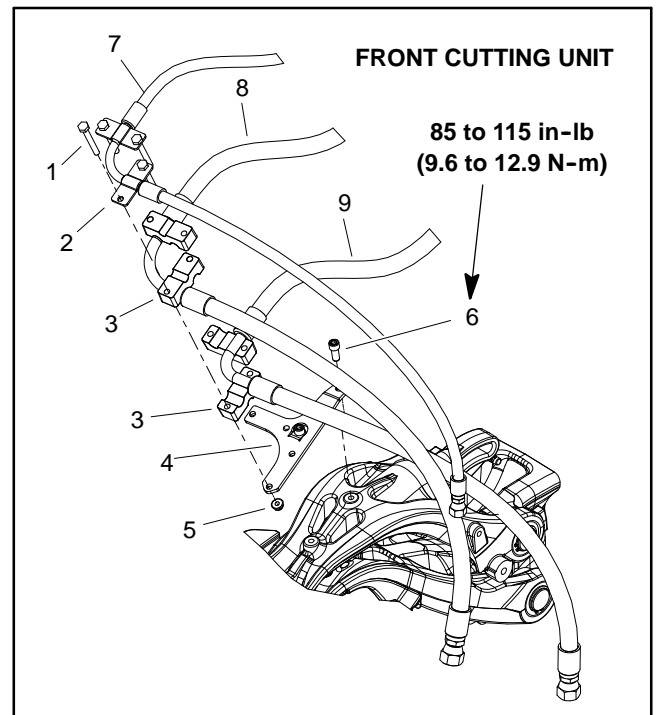

Figure 19
5. Remove hydraulic hose bracket from suspension assembly (Fig. 19 or 20).
2. Position suspension assembly to frame. Align mounting holes and secure suspension with three (3) flange head screws (item 2). Torques screws from **55 to 60 ft-lb (75 to 81 N-m)**.
4. Secure hydraulic hose bracket to suspension assembly (Fig. 19 or 20). Torque two (2) socket head screws from **85 to 115 in-lb (9.6 to 12.9 N-m)**.